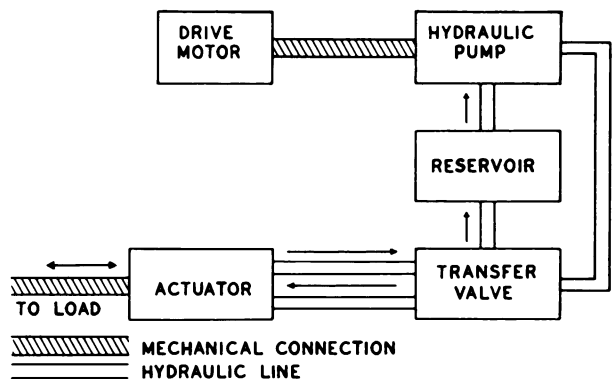

Figure 4C.
To answer items 16 through 20, you must decide what components to add to the simple hydraulic system shown in figure 4C in order to improve its operation. This system contains only the most basic hydraulic components and will not work very well by itself.